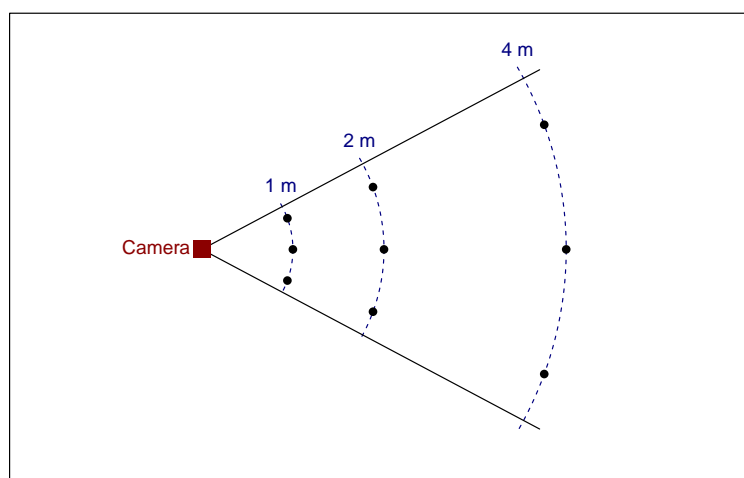

Figure 2: Diagram of an example layout for a camera calibration pole grid.
2. On an open arena, mark out nine or more positions at a range of different radial and angular distances from the camera, measuring the distances from camera accurately. Fig. 2 gives an example of placement positions, with poles at three distances (1, 2 and 4 m), and a range of angles. It's not necessary to measure angle, but it should be variable, and within the camera's field of view (usually about 20 degrees either side of the mid line, but you may need to check the effective field of view for your camera and setting).